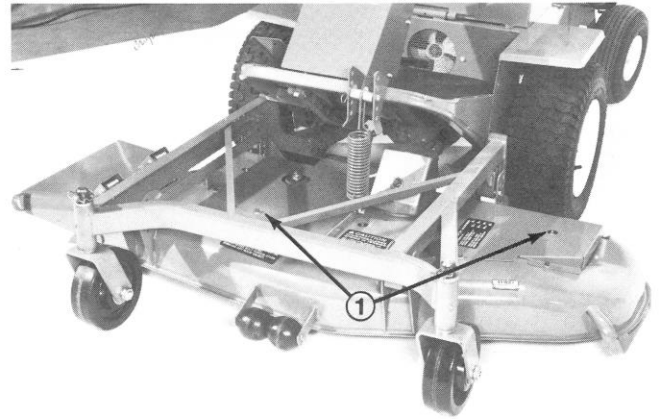

Figure 35
2. Remove capscrews and lockwashers securing left and right covers to top of cutting unit (Fig. 35).
8. Reinstall covers with capscrews and lockwashers (Fig. 35).
2. Remove capscrews and lockwashers securing right hand cover to top of cutting unit (Fig. 35).